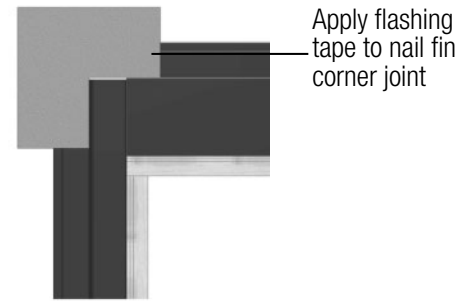

FIG. 12
- d. Apply flashing tape over nailing fin corner joint. (Fig. 12)